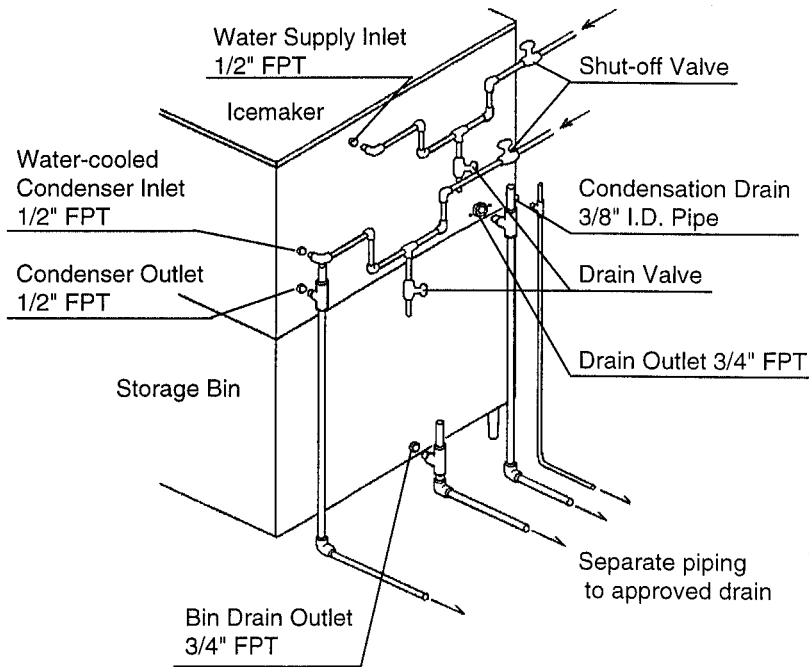

Fig. 12
8. WATER SUPPLY AND DRAIN CONNECTIONS - See Fig. 12
- 6) Close the Water-cooled Condenser Water Supply Line Shut-off Valve. See Fig. 12.
- 4) Close the Potable Water Supply Line Shut-off Valve and open the Potable Water Supply Line Drain Valve. See Fig. 12.